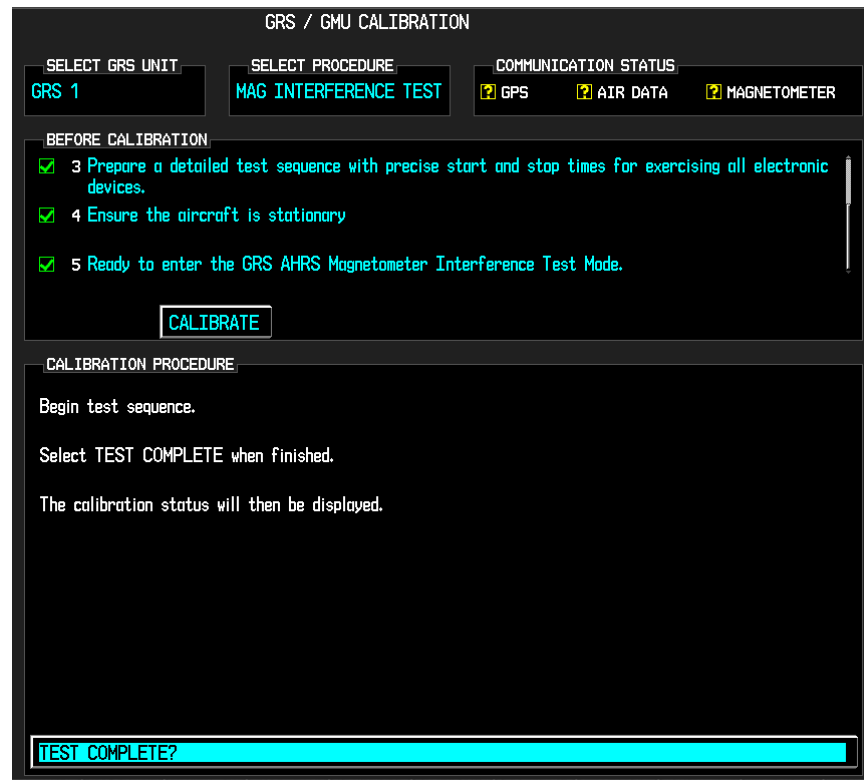

Figure 5-7, Magnetometer Interference Test
2. On PFD1, enter Configuration Mode and go to GRS/GMU Calibration page as shown in Figure 5-7.